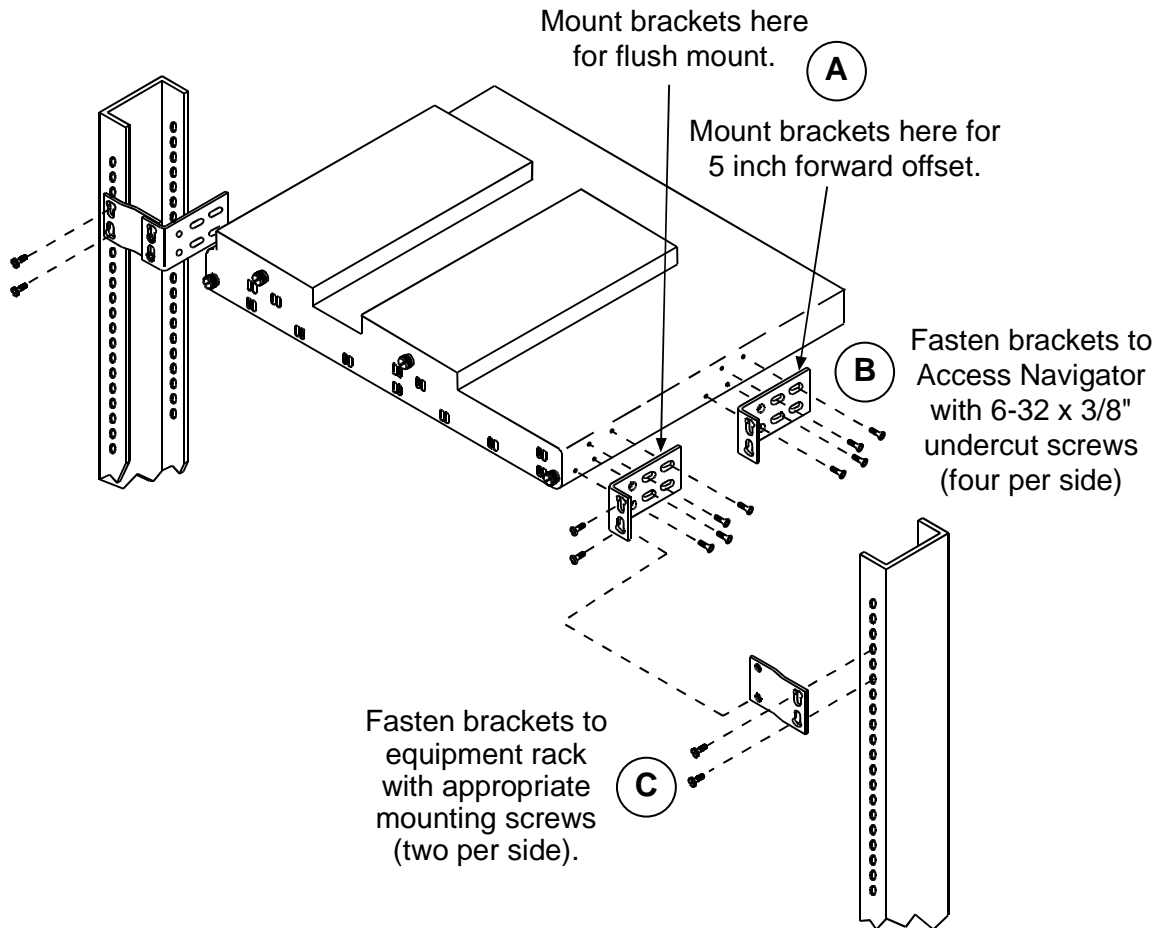

Figure 5-5. Installation in 23-inch Equipment Rack
3. Position mounting brackets for required flush mount or 5-inch forward offset with respect to front rails of equipment rack (see A in Figure 5-5).
5. Attach mounting brackets to each side of Access Navigator using the mounting screws removed in previous step (see B in Figure 5-5).
3. Secure mounting brackets to equipment rack using appropriate mounting screws (see C in Figure 5-5). Brackets accommodate 1.75 and 2.00 inch hole spacing.